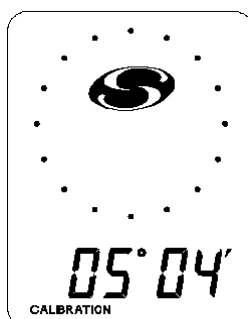

Figure 10. LCD Declination Angle Minute Display
- Use the MENU button to increment the minute value of the declination angle. The display will appear as shown in Figure 10. After you have finished, press the ENTER button.